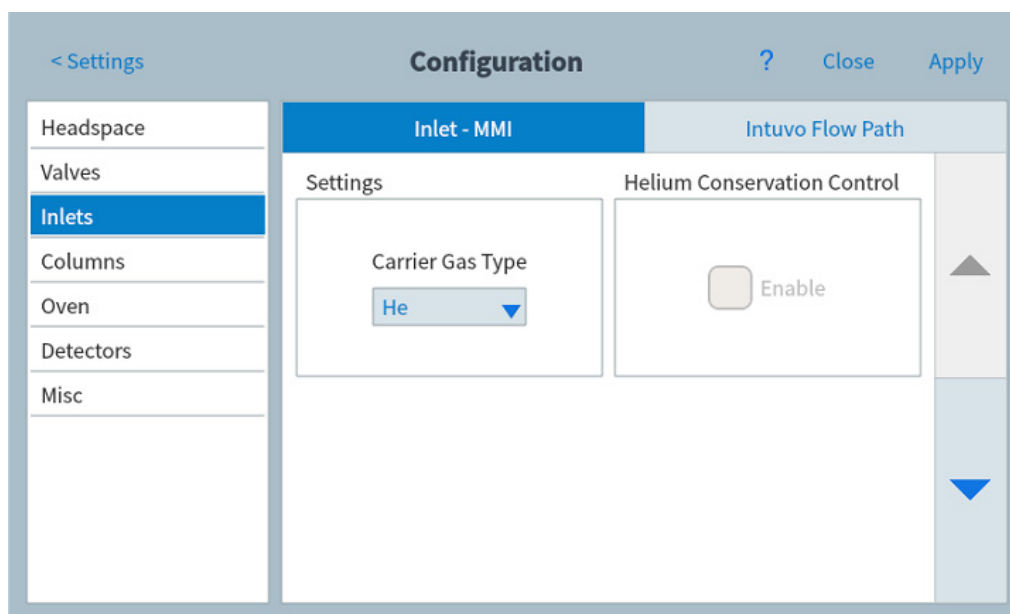

Figure 59 Inlets page
- 3 Press the **Inlets** device type from the list on the left side of the screen. The properties for the selected device type appear on the right side of the screen. See Figure 59.